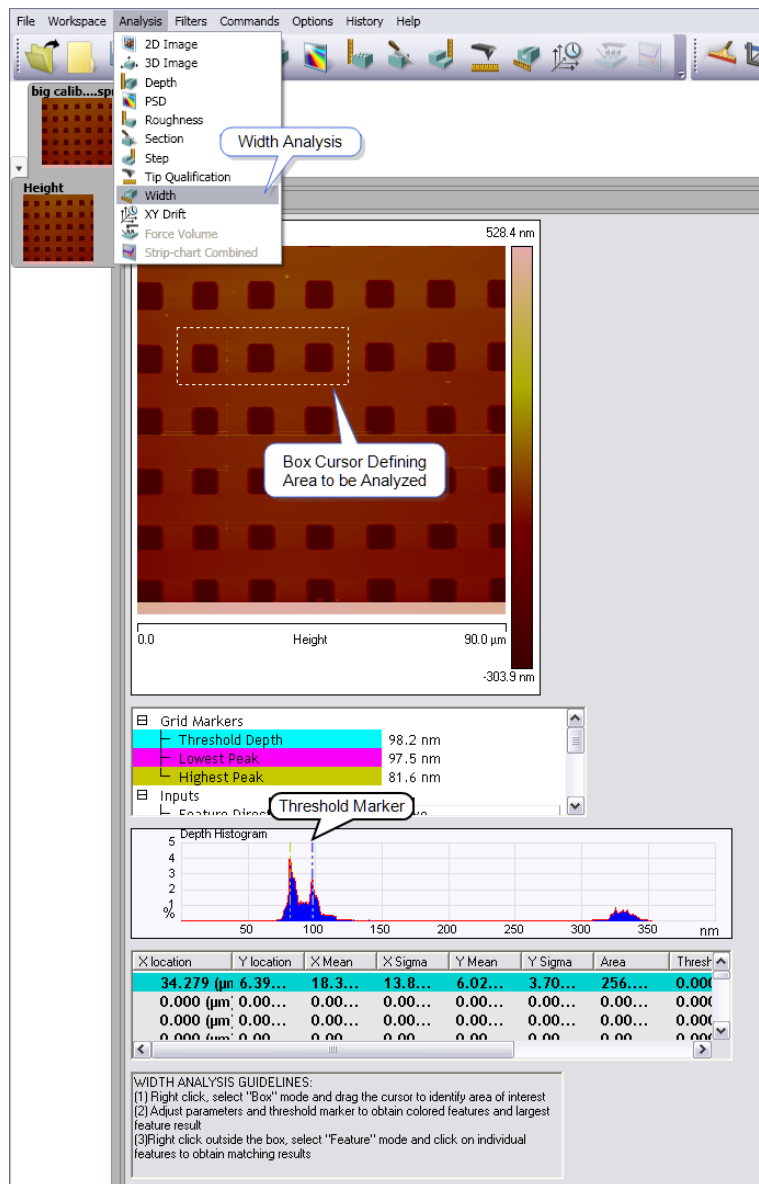

Figure 5.14b: Width Analysis Menu & Window
3. The **Width** view, shown in Figure 5.14b, appears showing results for the entire image.